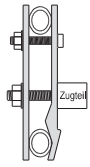

fig. 8
Note: First tighten the top two screws (V) then tighten the bottom two nuts (VI, VII) (fig. 8).